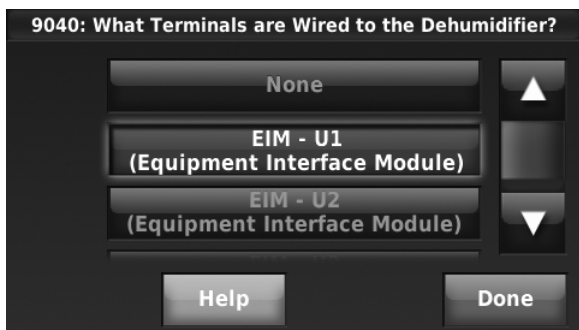

Fig. 244.
- Select the terminals wired to the Dehumidifier. See Fig. 244.